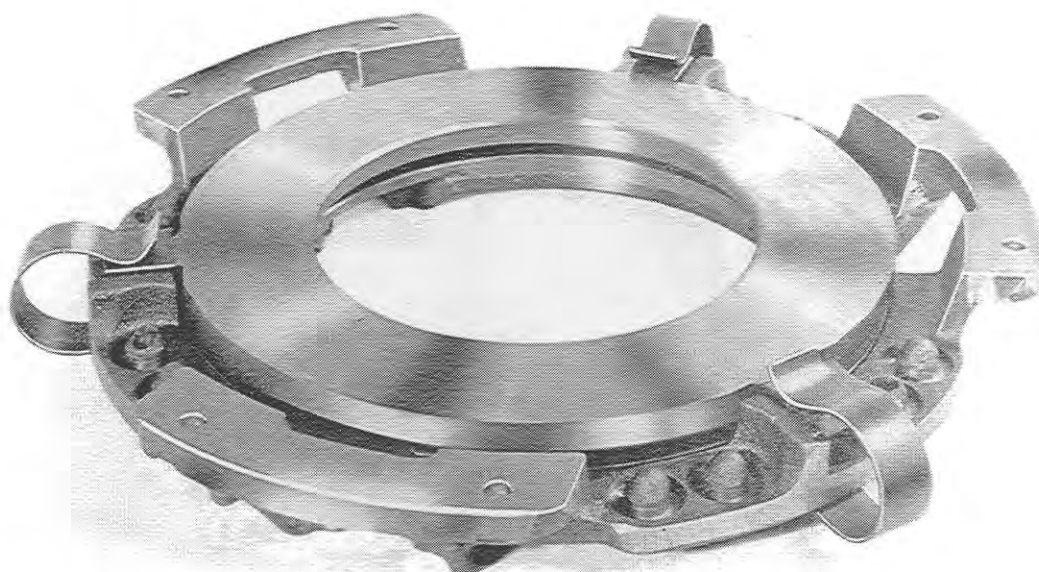

Fig. 6
- 3) Attach the secondary pressure plate to the cover with the three special assembly clips arranged as shown in Fig. 6.